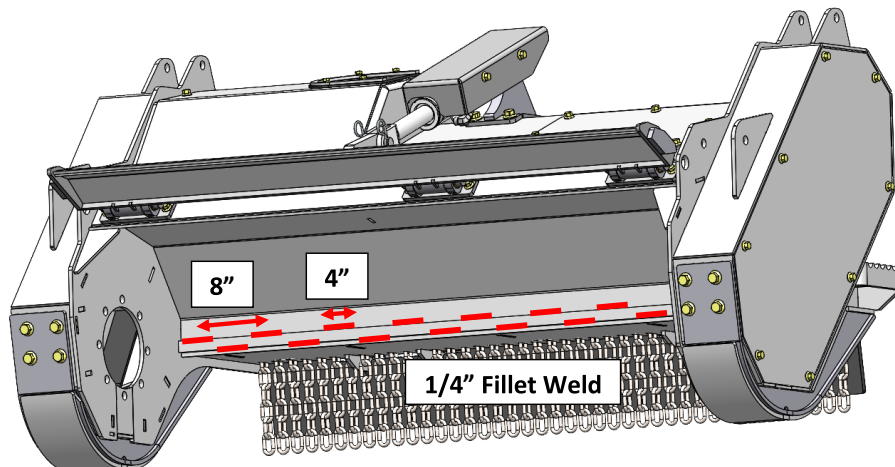

Figure 30
7. Follow the welding pattern illustrated in Figure 30.